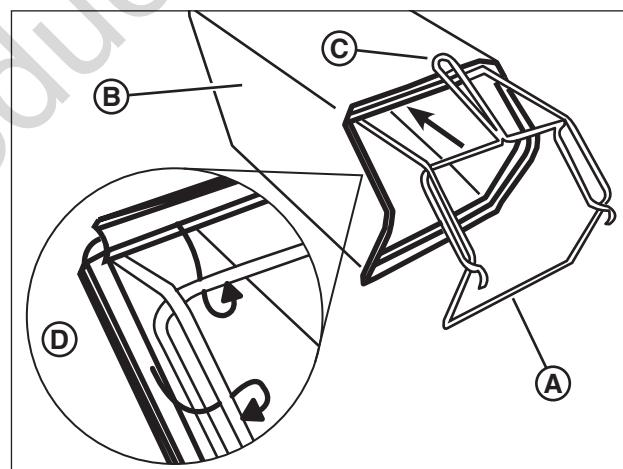

Figure 3: Assembling the grass bag
1. Slide the frame assembly (**A**, Figure 3) into the grass bag (**B**). Ensure the handle (**C**) is on the outside of the grass bag.